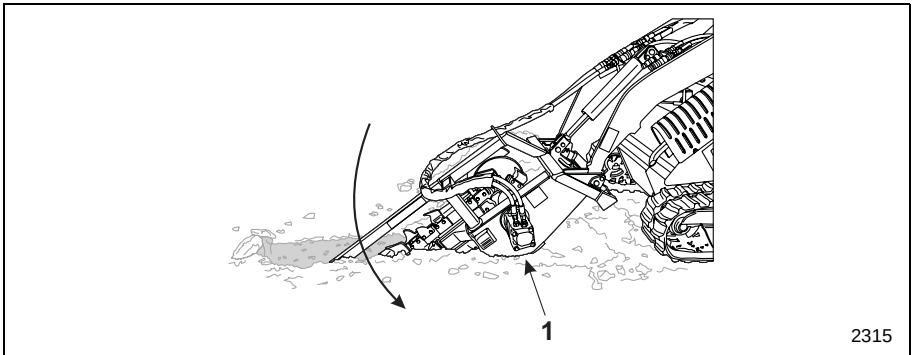

Figure 10 Chain in Work Position
6. Using the tilt control, slowly rotate the trencher downwards into the ground to the desired digging depth. Make sure that the skid shoe (Item 1, **Figure 10**) remains in contact with the ground.